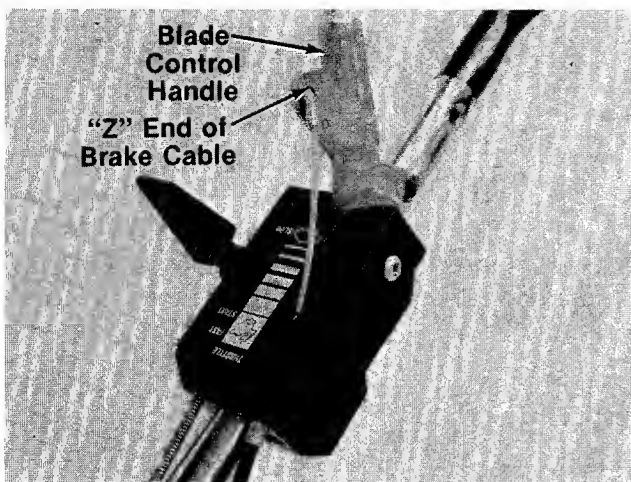

FIGURE 5.
8. Hook the “Z” end of the brake cable into blade control handle. See figure 5.